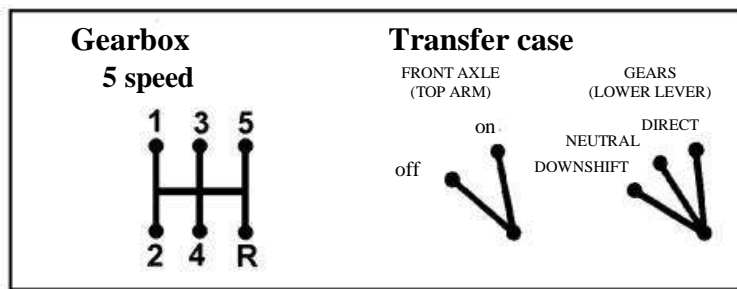

Fig. 3.2 Diagram of positions of gearbox levers and transfer case levers
- 13 - front axle switch lever (Fig. 3.2). It has two positions: front - axle on; rear - axle off;
- 14 - transfer case gear lever (Fig. 3.2). It has three positions: front - forward gear is engaged, middle - neutral position, rear - downshift gear is engaged;
- 15 - gear lever (fig. 3.2);